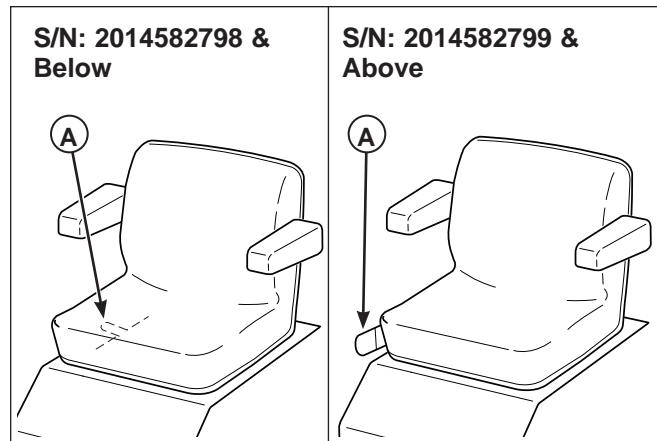

Figure 37. Seat Adjustment
**S/N: 2014582798 & Below:** Move the seat adjustment lever (A, Figure 37) forward, position the seat as desired, and release the lever to lock the seat into position.
**S/N: 2014582799 & Above:** Move the seat adjustment lever (A) towards the left, position the seat as desired, and release the lever to lock the seat into position.